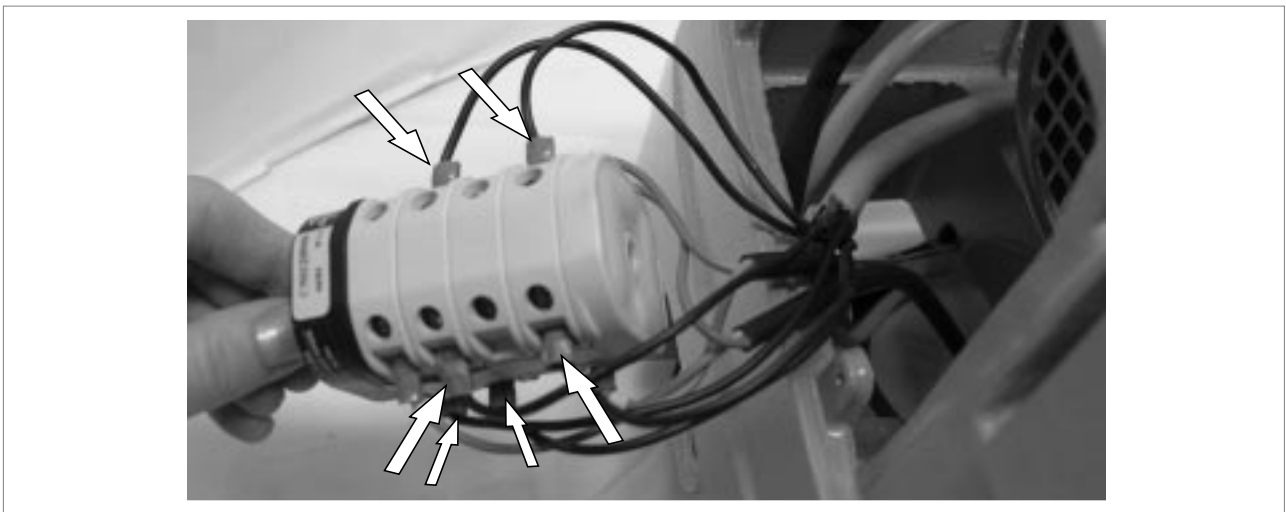

Fig. 39
- 12) Pull the switch out to the left and, paying attention to their position, disconnect the 6 motor wires from their connections (fig. 39, page 23).